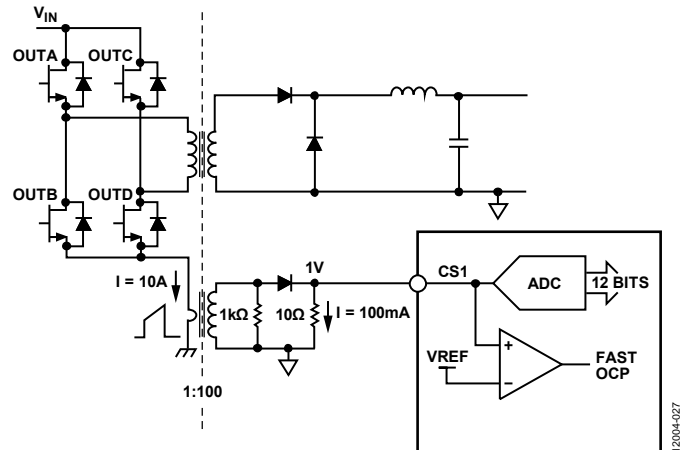

Figure 29. Current Sense 1 (CS1) Operation
The CS1 pin is typically used for the monitoring and protection of the primary side current. The primary side current is sensed using a current transformer (CT). The input signal at the CS1 pin is fed into the CS1 ADC for current monitoring. Figure 29 shows the typical configuration for the current sense. The READ\_IIN command reports the average input current; this reading is updated every 10.5 ms.